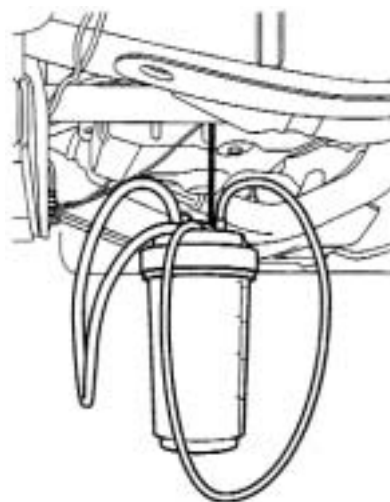

Figure 3
9. Connect the open end of the fluid hose from the Fluid Transporter to the Fluid Level and Fill Plug Adapter at the bottom of the transmission fluid pan (Figure 3).